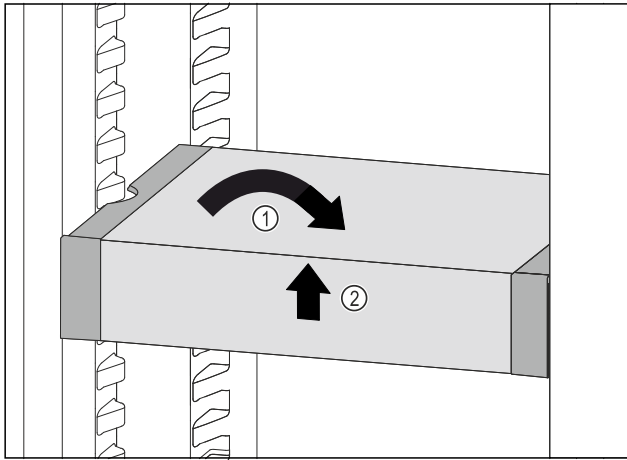

Fig. 114
- ▶ Set VarioSafe straight. Fig. 114 (1)
- ▶ Lift VarioSafe at the front. Fig. 114 (2)